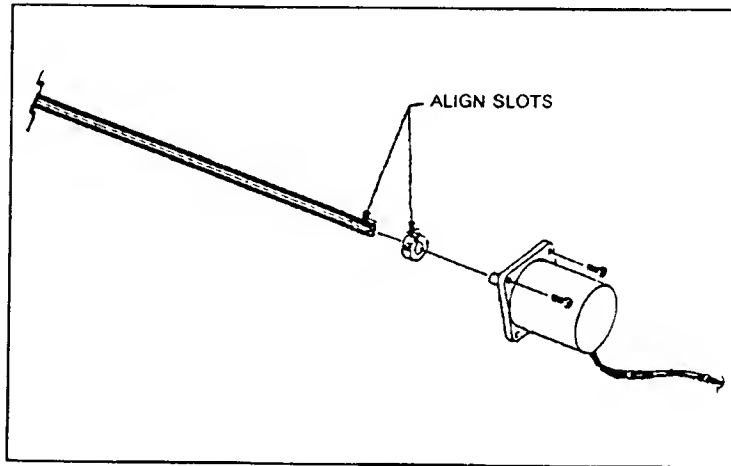

Figure 6-10. Tractor Drive Shaft Collar Alignment
- c. Locate the split collar approximately 2 to 3 mm away from the stepper motor, aligning the slot in the collar with the slot in the drive shaft (see Figure 6-10).